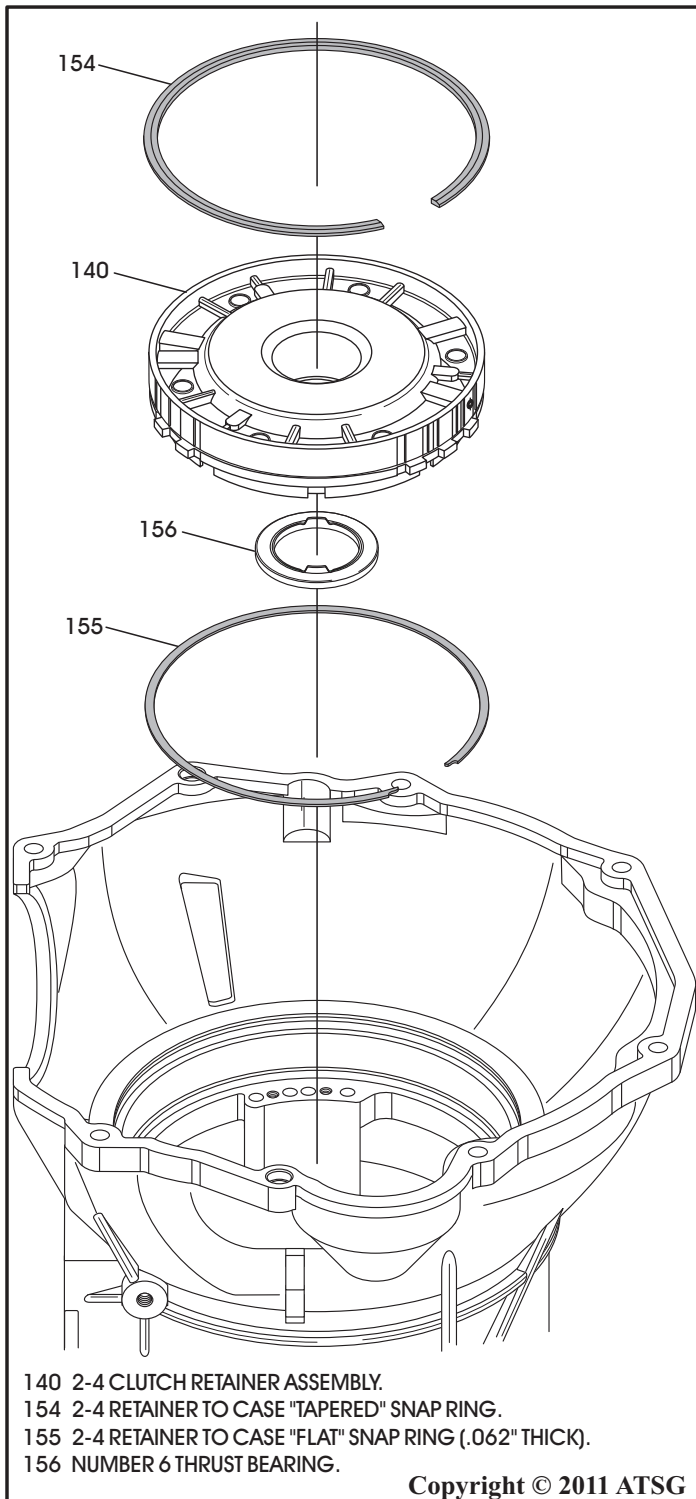

Figure 48
31. Remove the 2-4 clutch retainer front snap ring, which is a **tapered** snap ring, from case as shown in Figure 48.
32. Remove the 2-4 clutch retainer from the case, as shown in Figure 48, and set aside for component rebuild section.
33. Remove the 2-4 clutch retainer rear snap ring, which is a **flat** snap ring from the case, as shown in Figure 48.